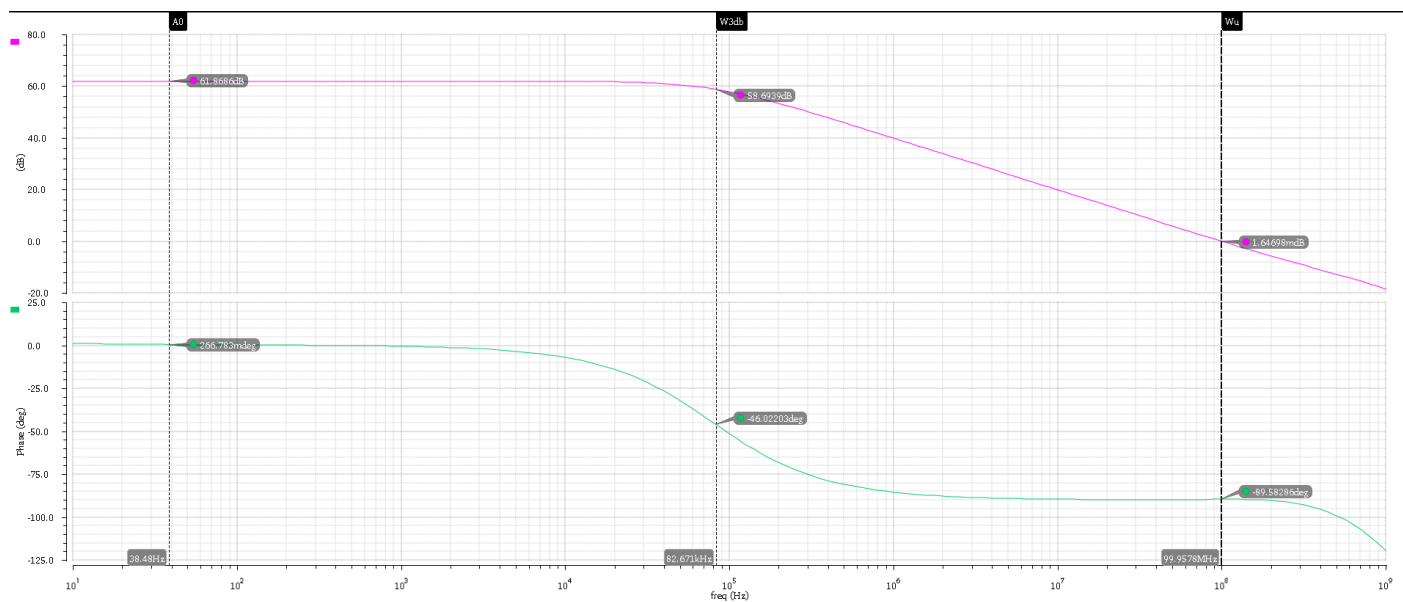

Figure 4: AC response of the OPAMP.
- Figure 4 shows the following information, DC gain( $A_0$ ), -3dB bandwidth ( $W_{-3db}$ ) and unity gain bandwidth( $w_u$ ).